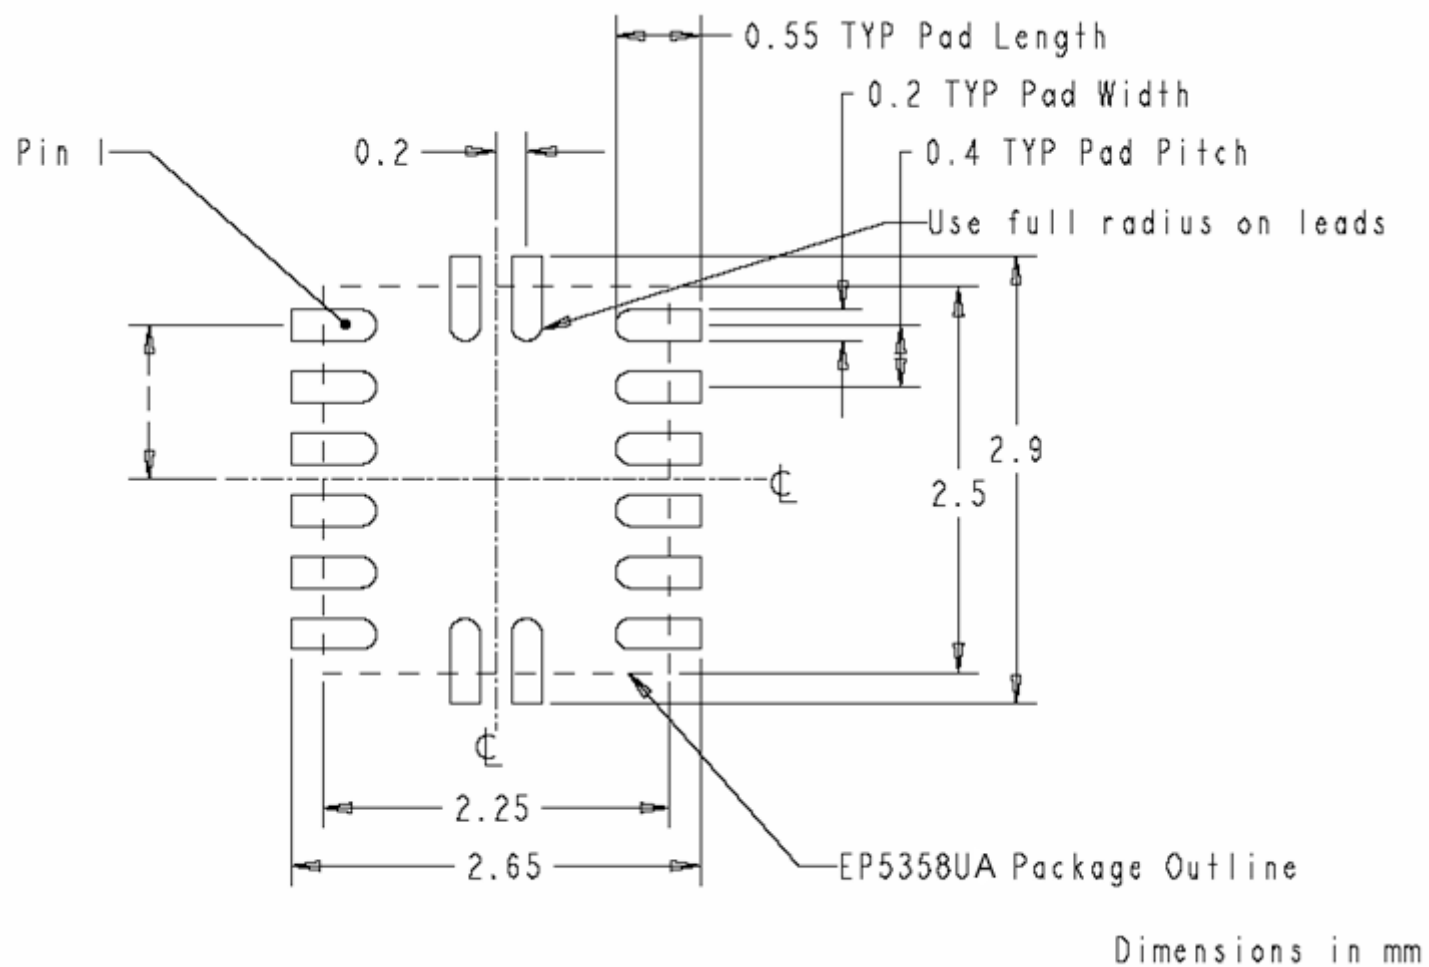

**Figure 11: Top PCB Layer Critical Components and Copper for Minimum Footprint**
Figure 11 shows critical components and layer 1 traces of a recommended minimum footprint EP5358LUA/EP5358HUA layout with ENABLE tied to  $V_{IN}$ . Alternate ENABLE configurations, and other small signal pins need to be connected and routed according to specific customer application. Please see the Gerber files on the Altera website [www.altera.com/enpirion](http://www.altera.com/enpirion) for exact dimensions and other layers. Please refer to Figure 11 while reading the layout recommendations in this section.
**Recommendation 2:** Input and output grounds are separated until they connect at the PGND pins. The separation shown on Figure 11 between the input and output GND circuits helps minimize noise coupling between the converter input and output switching loops.
**Recommendation 4:** Multiple small vias should be used to connect the ground traces under the device to the system ground plane on another layer for heat dissipation. The drill diameter of the vias should be 0.33mm, and the vias must have at least 1 oz. copper plating on the inside wall, making the finished hole size around 0.20-0.26mm. Do not use thermal reliefs or spokes to connect the vias to the ground plane. It is preferred to put these vias under the capacitors along the edge of the GND copper closest to the +V copper. Please see Figure 11. These vias connect the input/output filter capacitors to the GND plane and help reduce parasitic inductances in the input and output current loops. If the vias cannot be placed under  $C_{IN}$  and  $C_{OUT}$ , then put them just outside the capacitors along the GND. Do not use thermal reliefs or spokes to connect these vias to the ground plane.
**Recommendation 5:** AVIN is the power supply for the internal small-signal control circuits. It should be connected to the input voltage at a quiet point. In Figure 11 this connection is made at the input capacitor close to the  $V_{IN}$  connection.